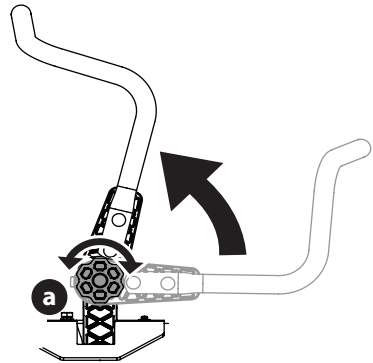

Figure 13
1. Rotate the knob (a) counter-clockwise to loosen the knob (a) (Figure 13).
3. Rotate the knob clockwise to secure the lapbar drive control lever into position (Figure 13).